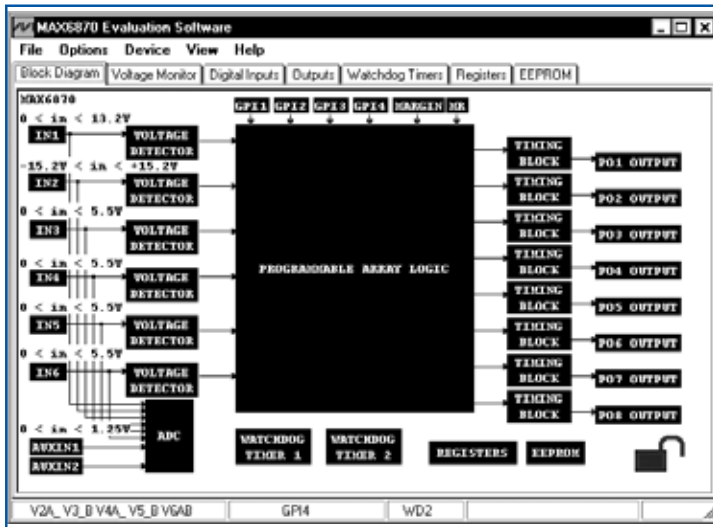

Figure 2. Click on the appropriate box or tab to set up thresholds, delays, output configurations, and logic.
**Figure 2** shows the main configuration screen from the *MAX6870 Evaluation Software*. You can click on the blocks within the block diagram or on the tabs. Clicking on one of the blocks allows you to configure that specific block. Clicking on a tab brings up a screen specific to a particular function. For instance, when you select the Voltage Monitor tab (**Figure 3**), the screen that appears allows you to easily select the thresholds and configure the inputs. Or when you click on the Output tab (**Figure 4**), you can set up the output as open-drain, push-pull, or charge-pump enhanced, as well as set up the logic terms that determine the output's state.